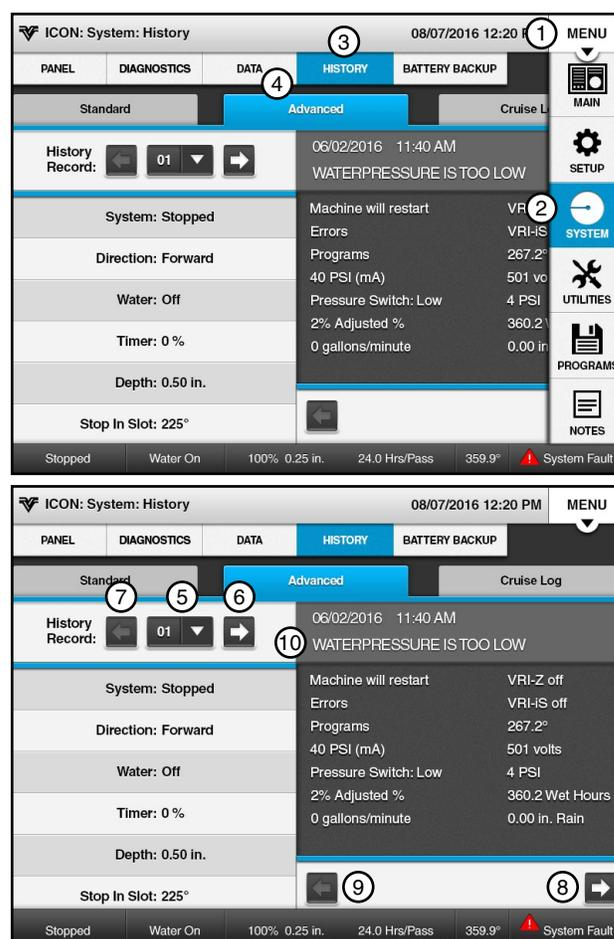

Figure 67-1
The Advanced History Screen displays a record of all statuses and error codes related to the history record. Refer to Figure 67-1.
1. To view Advanced History, push **Menu, System, History,** and **Advanced.** See Figure 67-1.